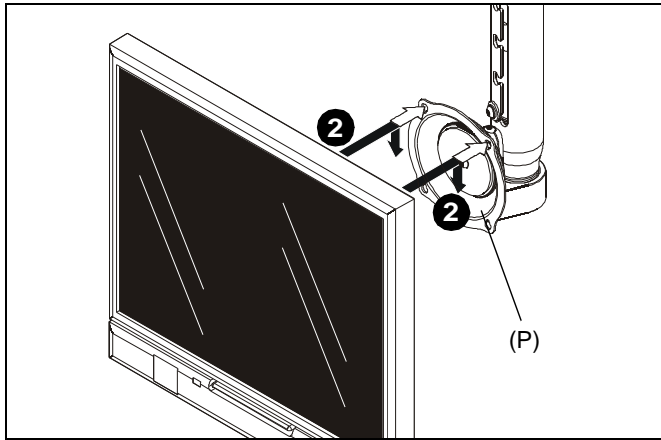

Figure 10
2. Align two screws in display back with upper teardrop mounting holes in mounting plate and lower display until screws are seated in lower area of teardrop mounting holes. (See Figure 10)